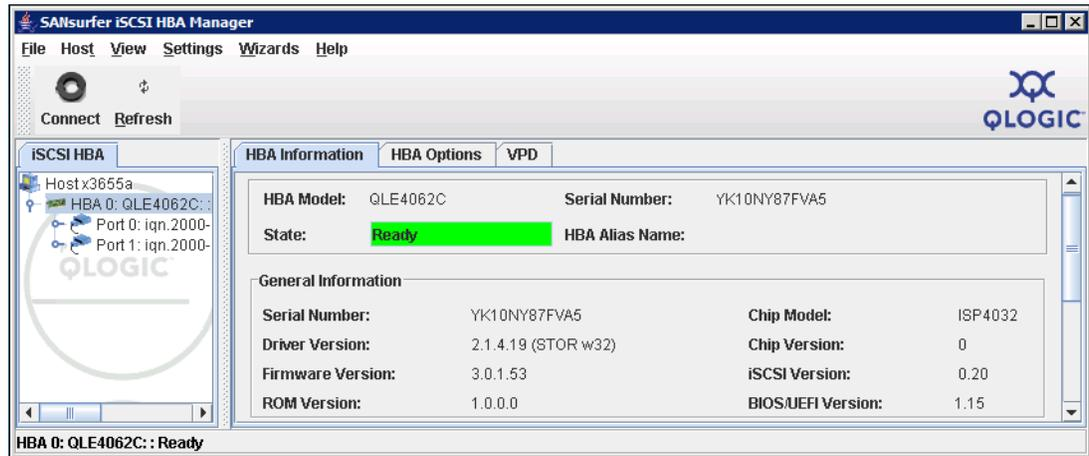

Figure 3-31 Displaying iSCSI card levels
1. Begin by starting the iSCSI SANsurfer, and check the adapter drivers, BIOS, and firmware levels. Make sure that they are at the required support level. See Figure 3-31.